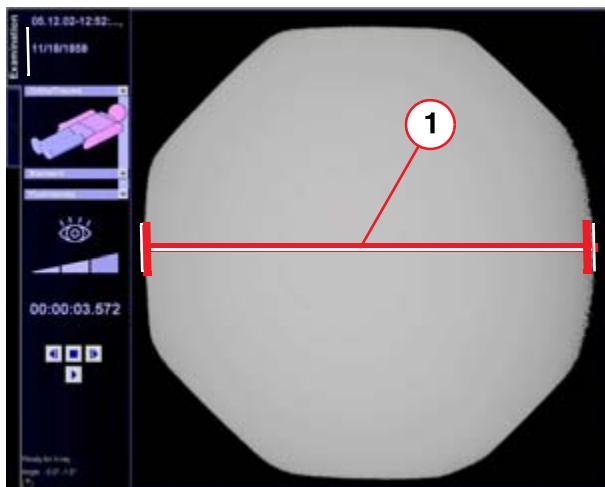

Fig. 8: diameter_x_iris
2. Briefly release fluoro and measure the maximum and minimum diameter of the visible X-ray field in full format (1/Fig. 8 / p. 27).